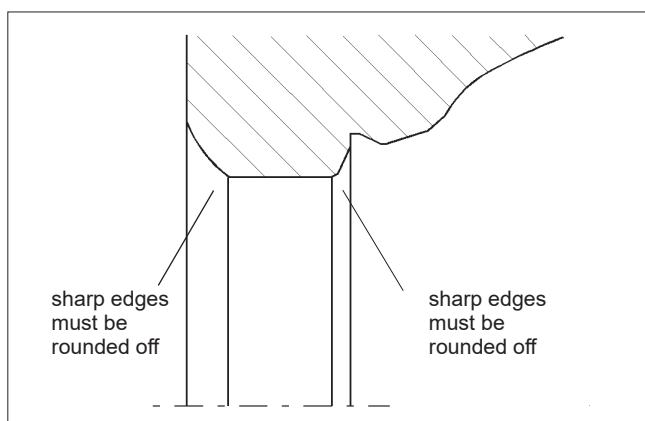
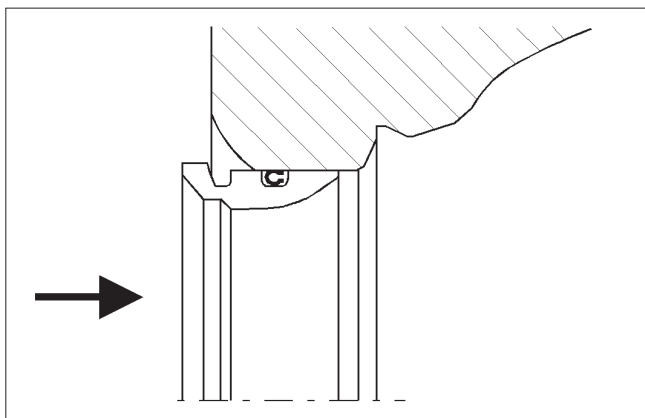

Fig. 25 Rounding the sharp edges
Fig. 26 Precompression of the lip seal
- Clean the flow port that houses the seat. Remove any burrs. Round off the edges using a fine abrasive paper and clean the flow port carefully, see Fig. 25. Place the back seal (6) onto the seat (4).
- Lubricate the flow port, seat (4) and back seal (6) and the lock spring (5) with a volatile lubricant, e.g. Hyprez.
- **Only for a lip seal:** Push the seal carefully into the flow port for about 15 minutes, Fig. 26. The following work phases must be completed before the precompression is lost.